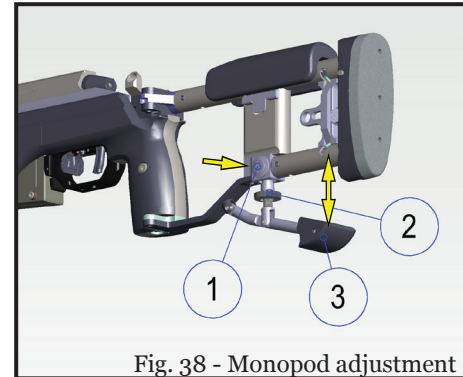

Fig. 38 - Monopod adjustment
Monopod has two separate adjustment means (Fig. 38): coarse adjustment by using buttons (1) on both sides of the stock and fine-tuning by using rotating wheel (2). Adjustment is done as follows:
1. Press buttons (1) on both sides of the stock.
2. Adjust the rear support (3) to the desired position.
3. Rotate the adjustment wheel (2) to fine-tune the adjustment.